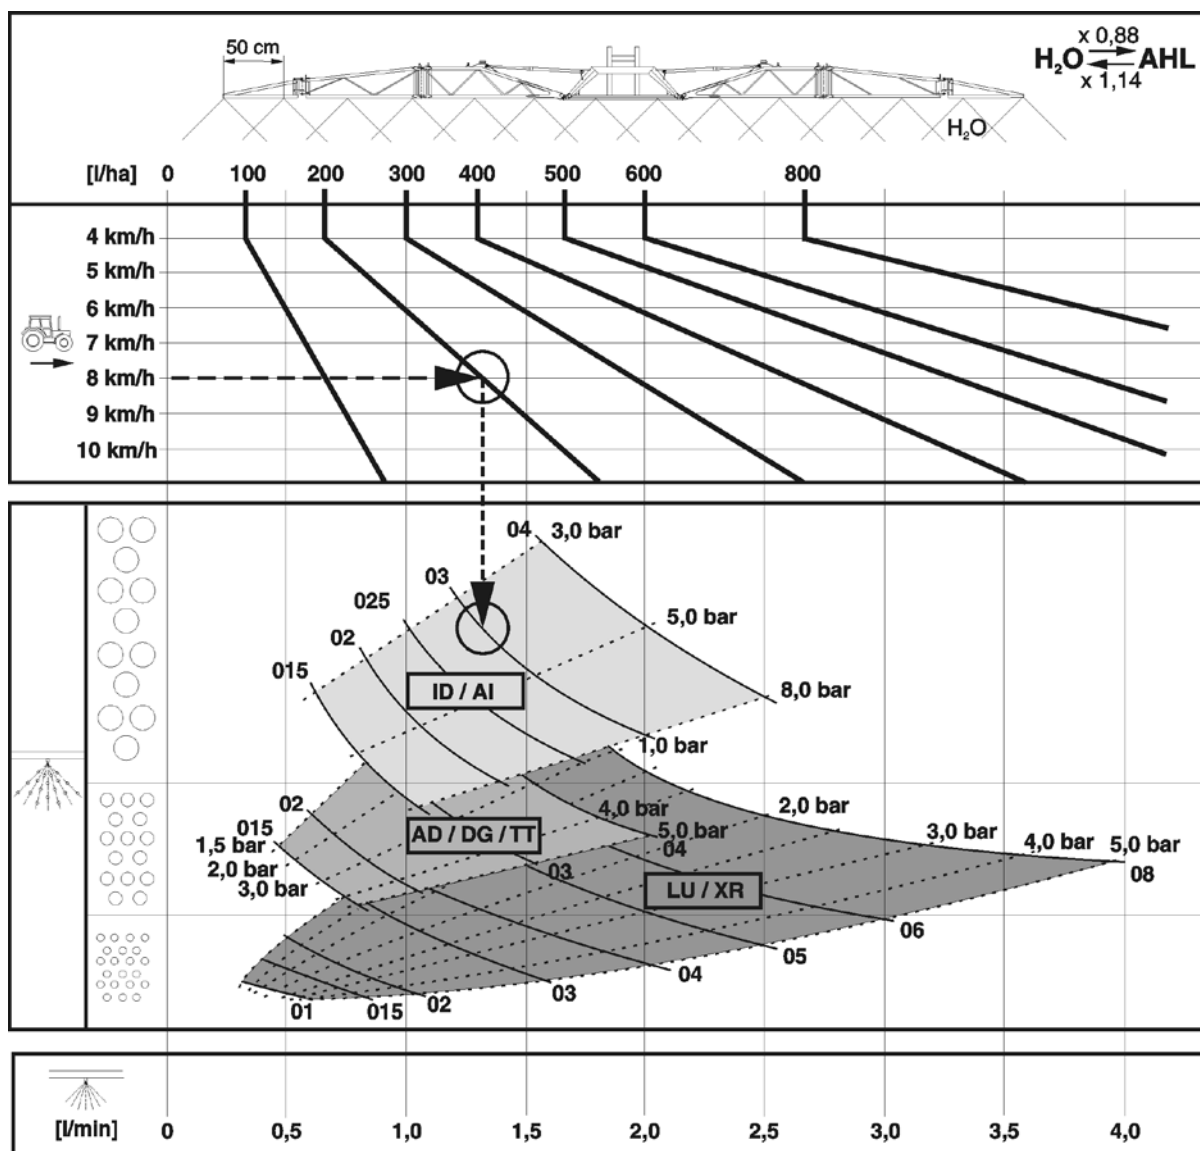

Fig. 199
- Fig. 199 helps with the selection of the right nozzle type. The nozzle type is determined by